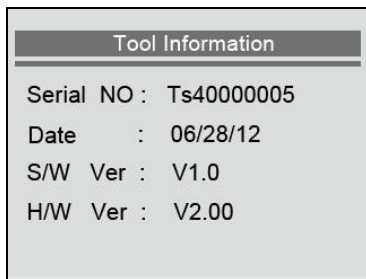

Figure 2.20
- 2) View tool information on screen. (Figure 2.20)